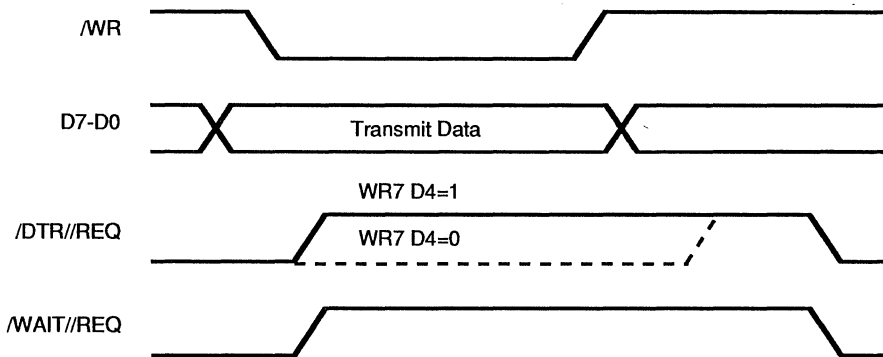

Figure 13. DMA Request on Transmit Deactivation Timing
**Bit 4.** */DTR//REQ timing.* If this bit is set and the /DTR//REQ pin is used for Request mode (WR14 D2=1), the deactivation of the /DTR//REQ pin will be identical to the /W//REQ pin as shown in Figure 13. If this bit is reset, the deactivation time is 4TcPc.